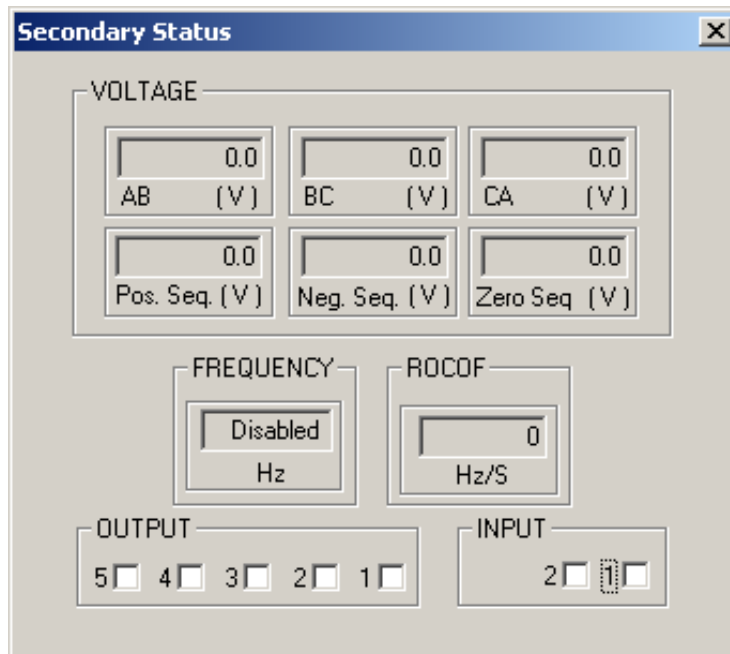

Figure 2-10 Secondary Status Screen
1. If using M-3812 IPScom®, then select the **RELAY/MONITOR** drop down menu and choose **Secondary Status** (see Figure 2-10).
The individual addressing capability of IPScom and the relay allows multiple systems to share a direct or modem connection when connected using a communications-line splitter (see Figure 2-10). A typical device enables 2 to 6 units to share one communications line. The 6 unit limit is not a limit of the relay, but of the communications line splitter.